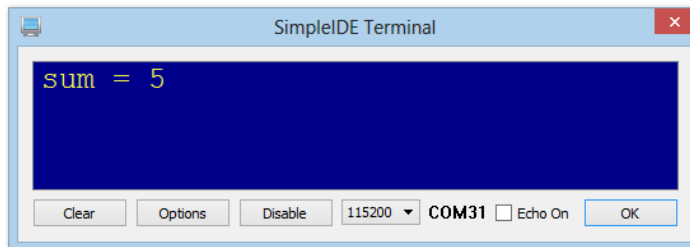

Figure 5-6
- Verify that the output of the unmodified code matches Figure 5-6.